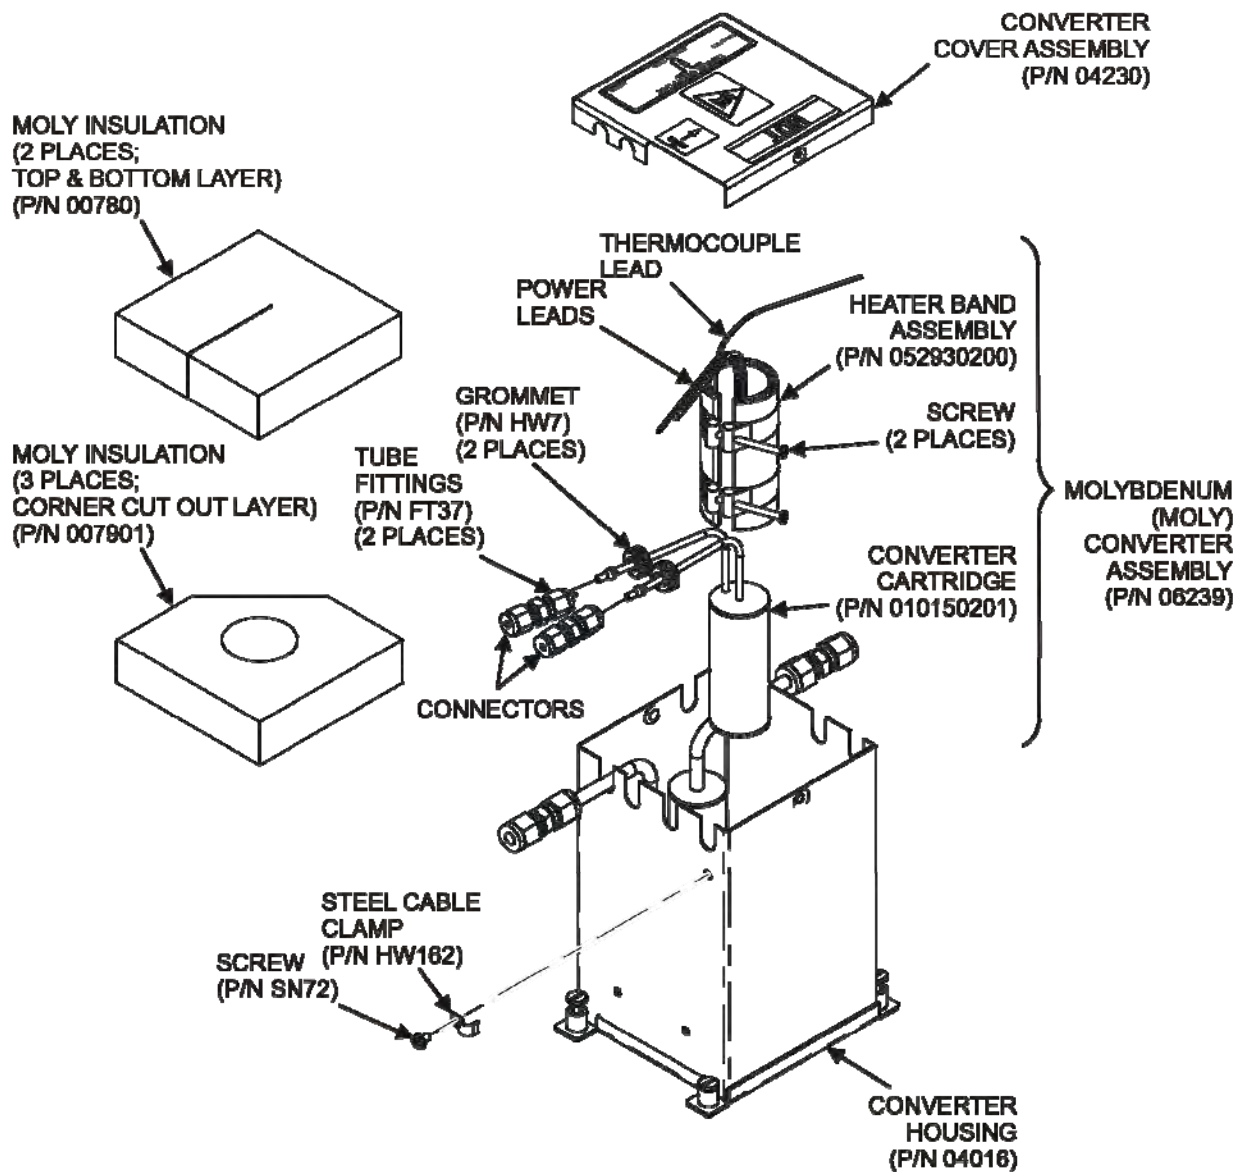
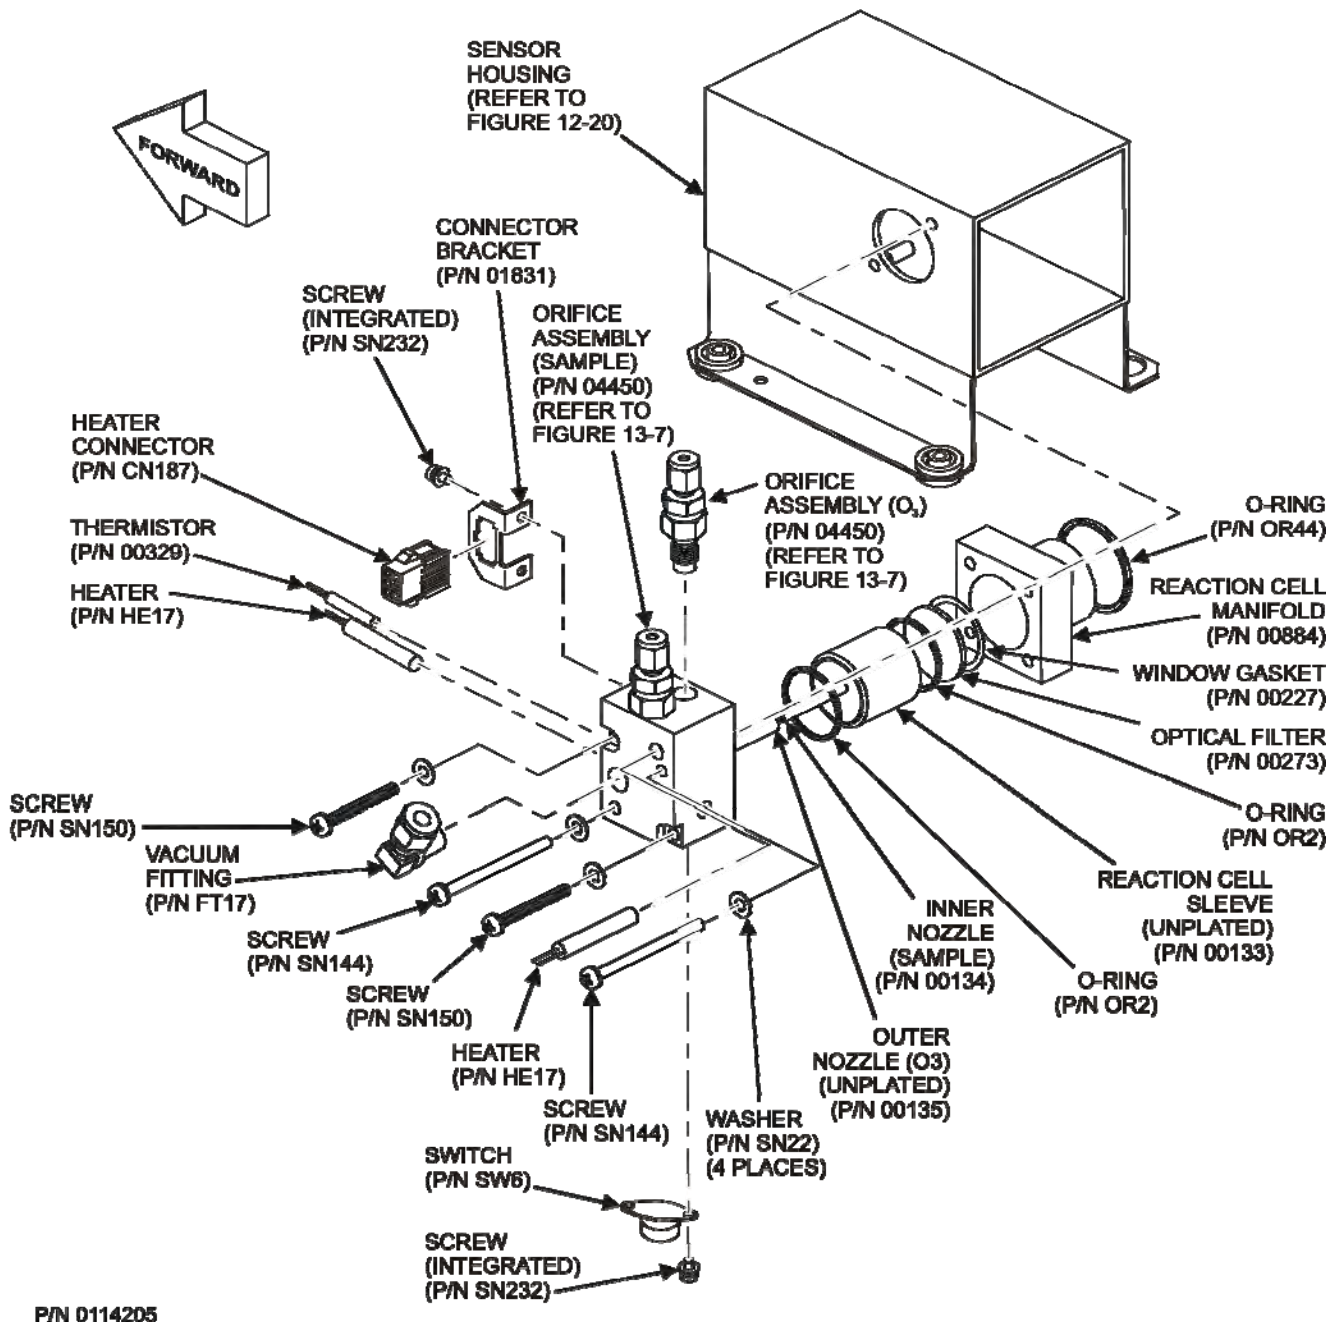

Figure 13-5: NO2 Converter Assembly
Figure 13-6: Reaction Cell Assembly
The NO2 converter is located in the center of the instrument, Figure 3-5 for the location, and Figure 13-5 for the assembly.
1. Turn off the instrument power and vacuum pump. Refer to Figure 13-6 for the following procedure.
2. Remove the analyzer cover and locate the reaction cell (Figure 13-5 and Figure 13-6).
4. For orifices on the reaction cell (Figure 13-6): Unscrew the orifice holder with a 9/16" wrench.